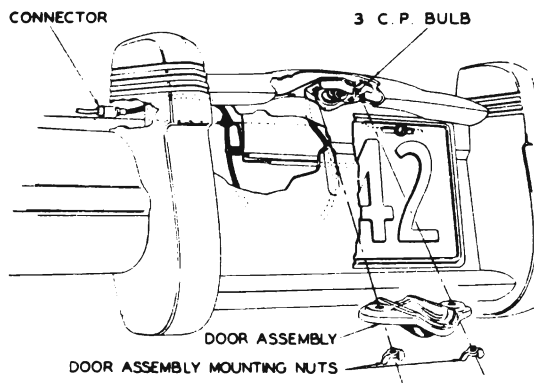

Fig. 12-73. Rear License Plate Bracket—Series 50-70
- To replace the bulb remove the two wing nuts holding the door in place. See Fig. 12-73.